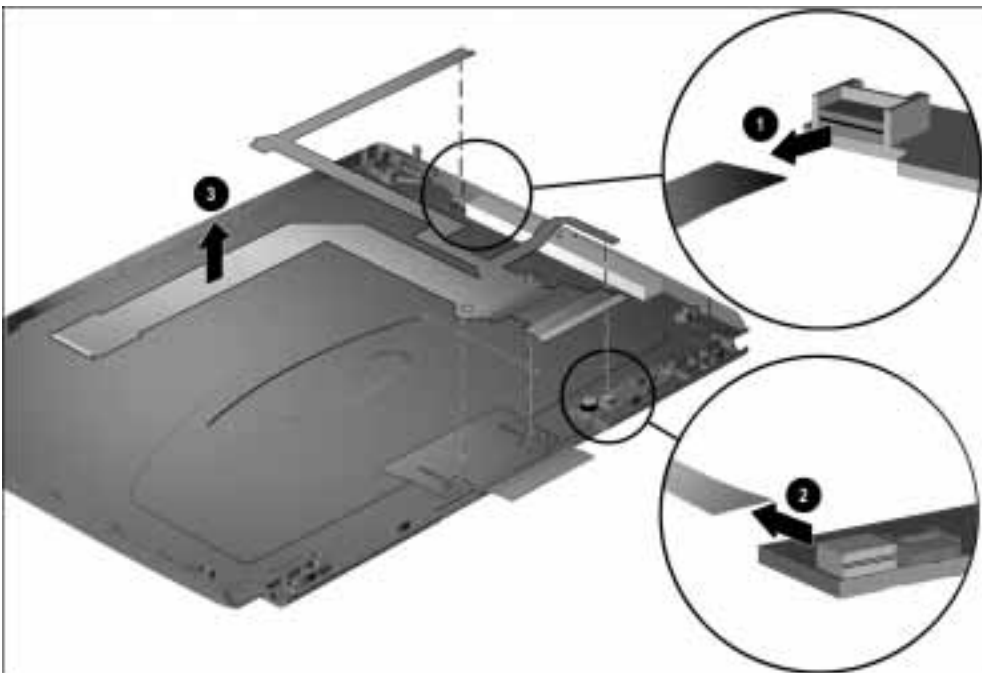

Figure 5-39. Removing the Display Cable
6. Disconnect the display cable from the inverter **1** and microphone board **2** (Figure 5-39).